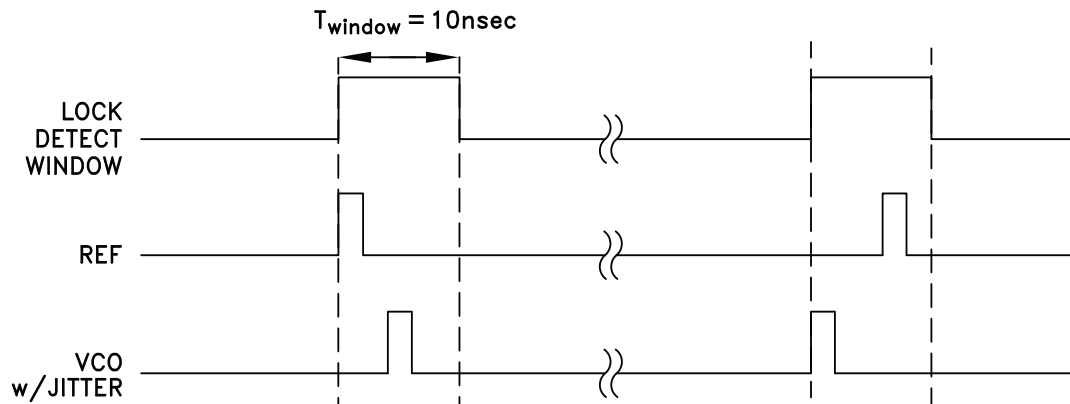

Figure 11. Normal Lock Detect Window
The Lock Detect circuit in the HMC700LP4(E) places a one shot window around the reference. The one shot window may be generated by either an analog one shot circuit or a digital one shot based upon an internal ring oscillator. Clearing *ringosc_oneshot_sel* (Table 14) will result in a fixed analog based nominal 10 nsec window, as shown in Figure 11. Setting *ringosc_oneshot_sel* will result in a variable length window based upon a high frequency internal ring oscillator. The ring oscillator frequency is controlled by *ringosc_cfg*. The resulting lock detect window period is then generated by the number of ring oscillator periods defined in *oneshot_duration*, both in (Table 14).
The Lock Detect Flag is output to LD_SDO pin according to *pfd_LD_opEn* (Table 18) or to the internal SPI read only register if *locked* = 1 (Table 21). Setting *pfd_LD_opEn* will display the Lock Detect Flag on LD_SDO except when a serial port read is requested, in which case the pin reverts temporarily to the Serial Data Out pin, and returns to the Lock Detect Flag after the read is completed. Timing of the Lock Detect and Serial Data Out functions are shown in Figure 11.